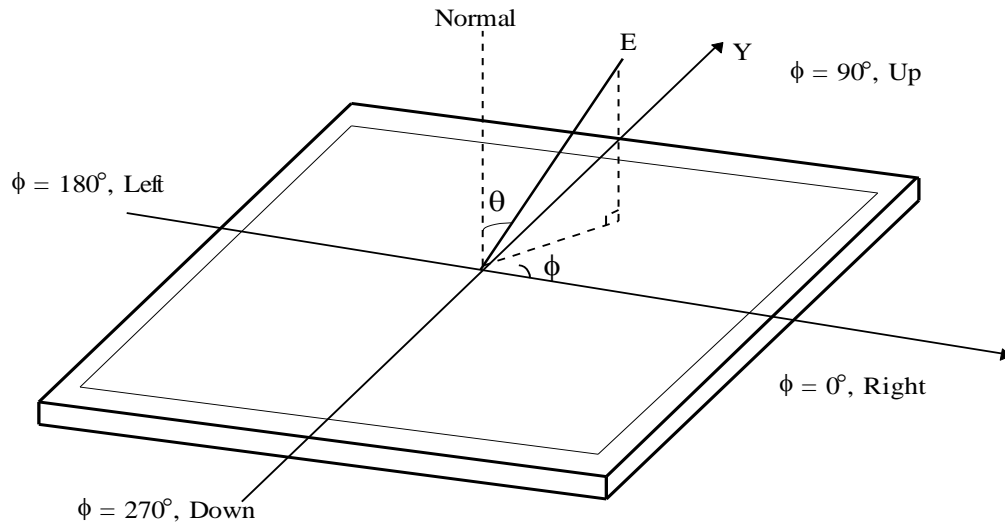

FIG. 5 Viewing Angle
8. Viewing angle is the angle at which the contrast ratio is greater than 10. The angles are determined for the horizontal or x axis and the vertical or y axis with respect to the z axis which is normal to the LCD module surface. For more information, see the FIG. 5.